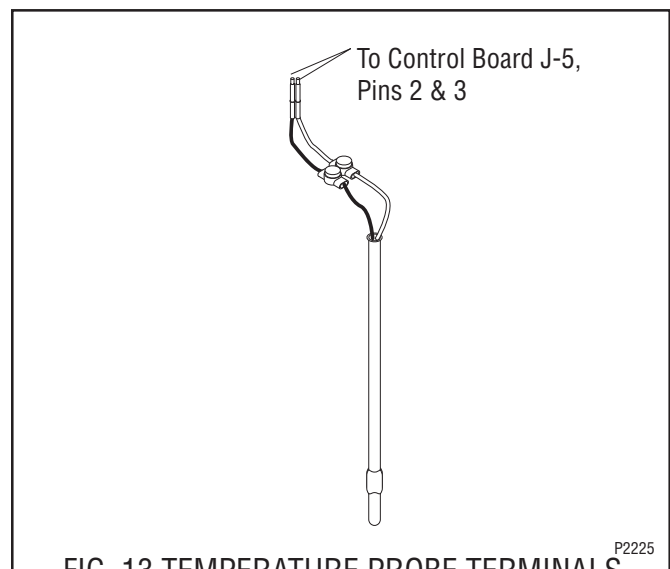

FIG. 13 TEMPERATURE PROBE TERMINALS
7. Refer to Fig. 13 when reconnecting the wires.